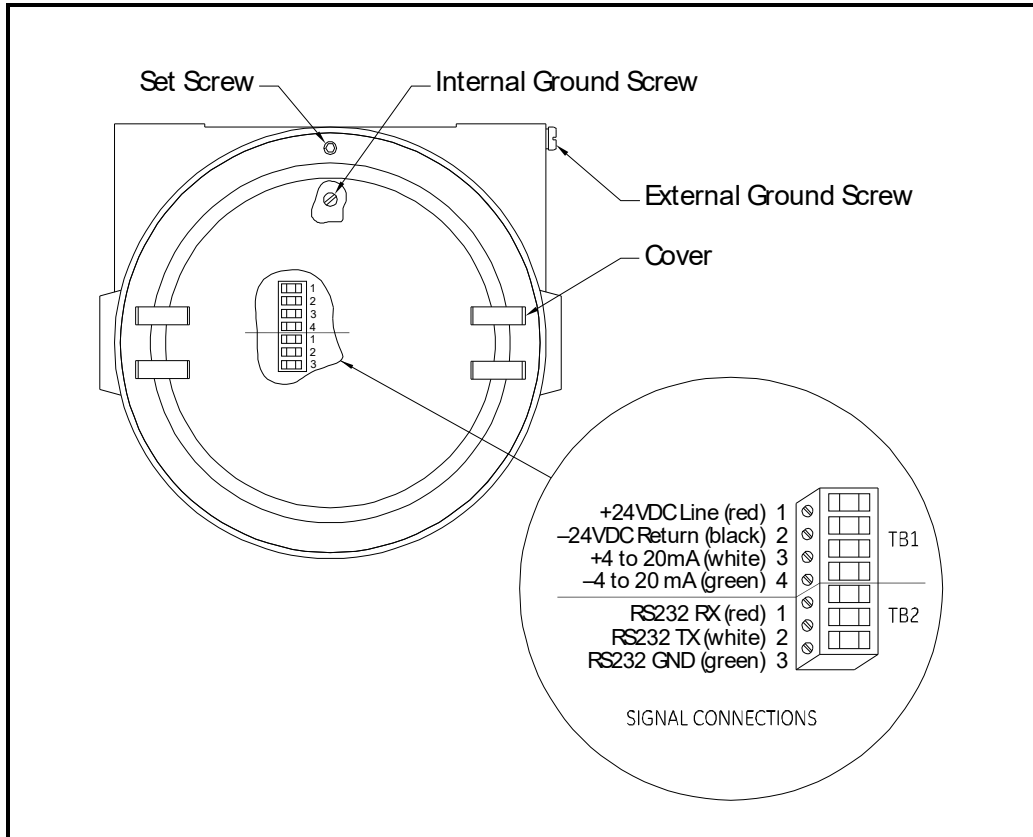

Figure 4: Wiring Connections to the XMO2 TB1/TB2 Block
4. Unplug terminal block TB1/TB2 on the XMO2 transmitter PC board (PCB) by carefully pulling it directly up without bending the pins attached to the PCB. (See Figure 4 on page 8.)